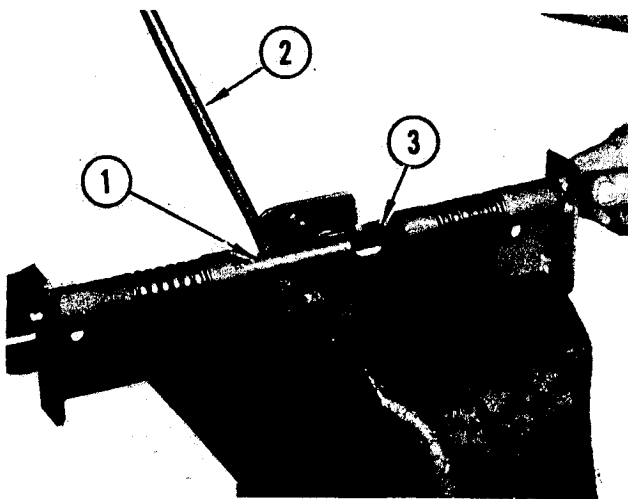

FIGURE 4. LOCK PAWL INSTALLATION
Carefully pry first lock pawl (1) away from body, Figure 4, with screwdriver (2) to allow clearance for locating second pawl (3) between first pawl and body.